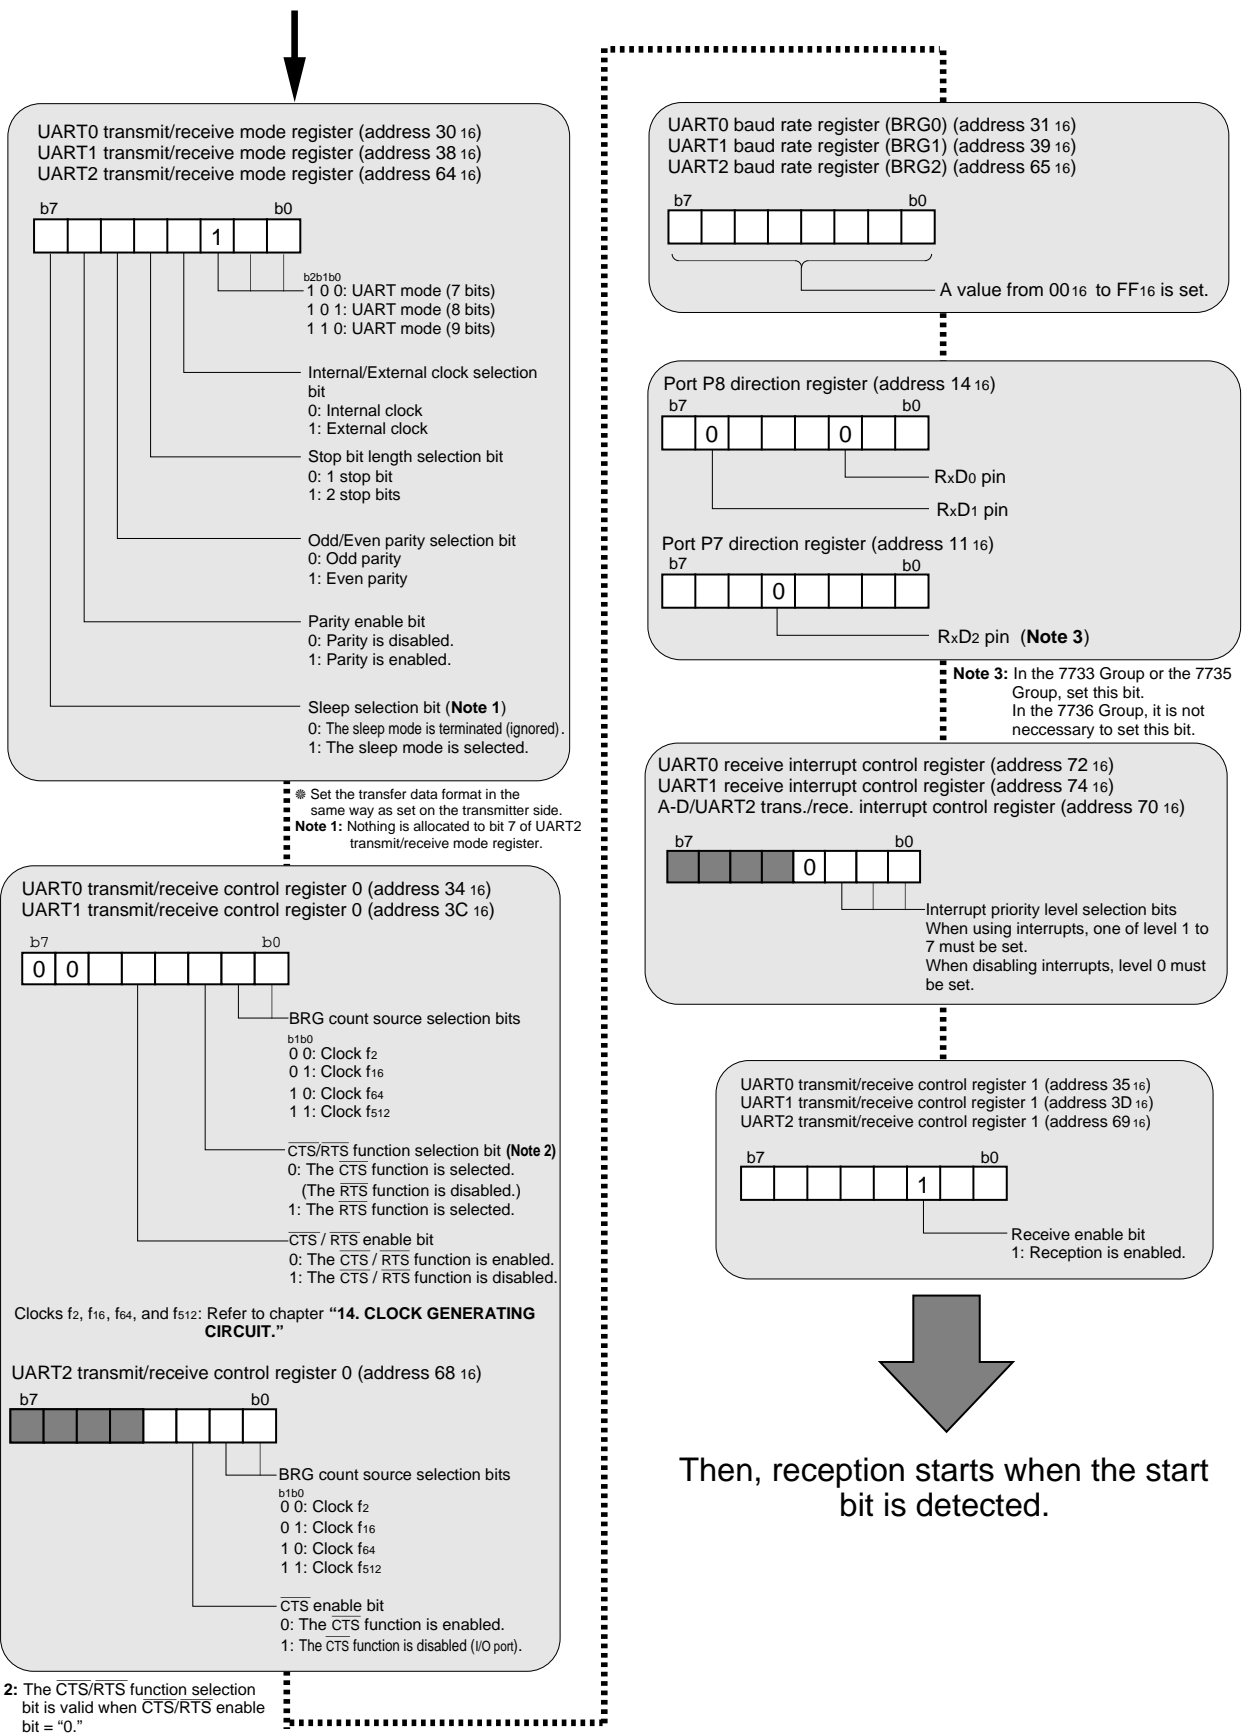

Fig. 8.4.9 Initial setting example for related registers when receiving
Figure 8.4.9 shows an initial setting example for related registers when receiving. Reception is started when the following conditions (① and ②) are satisfied.
- ① Receive enable state (receive enable bit = “1”).
- ② The start bit is detected.